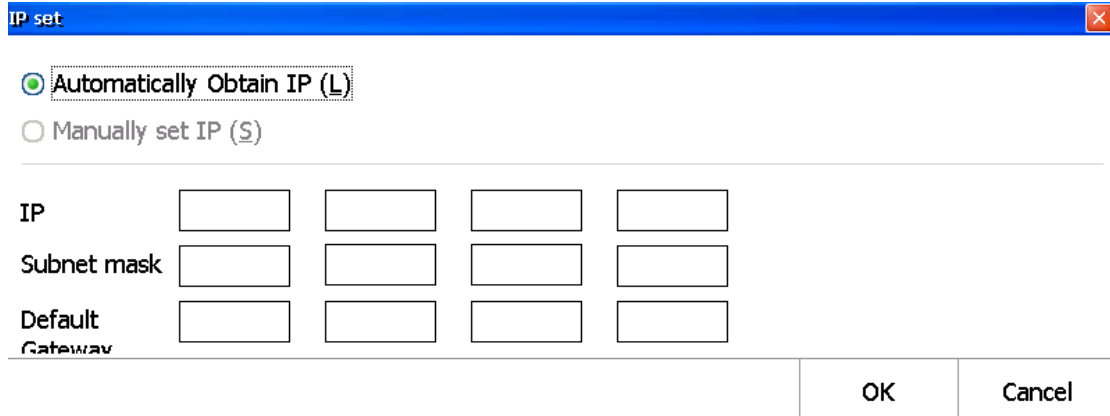

Figure 6-4 Automatically obtain IP (integrated machine)
- <System> → <M System Info> → <F7 Network Info> → <F5 IP Setting> (enter the manufacturer password, pop-up the dialog box shown in figure 6-4) → <S Manually Set IP>.